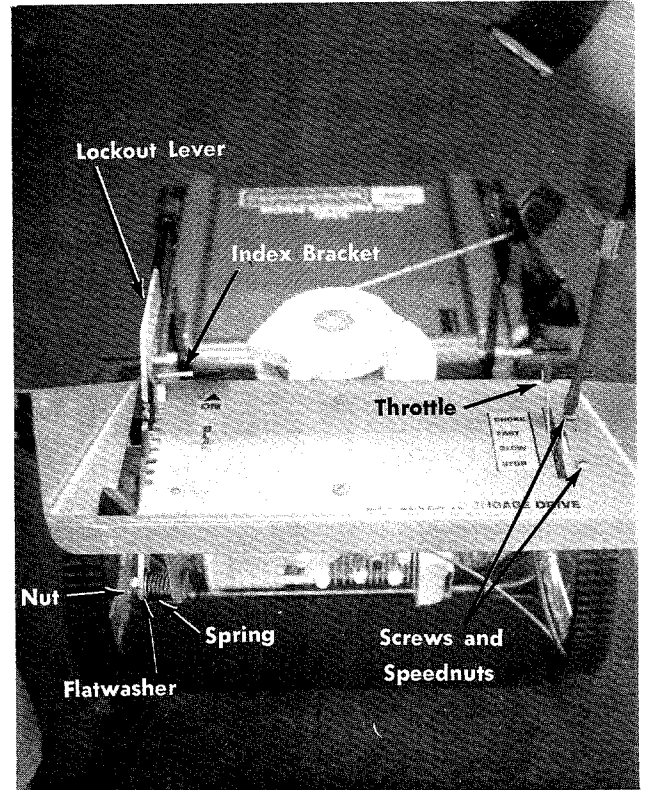

FIGURE 4
8. Assemble the throttle control to the handle panel with the two speednuts and screws. See figure 4.
9. If the lockout lever and index lever are not pre-assembled, they must be assembled to the bracket welded to the left side of the handle panel. Place the index bracket over the stud with the black plastic grip facing the right. See figure 4.
10. Put the spring, flatwasher and lockout lever, in that order, over the stud and tighten the nut until the end of the stud is flush with the top of the nut. See figure 4.